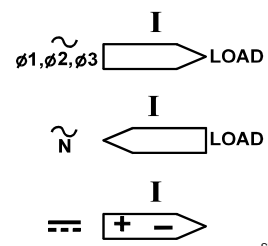

Figure 3. Orientation of the Current Probe
- Clamp the Current Probe around the conductor; be sure that the arrow marked on the jaw of the Current Probe points toward the correct orientation. (see Figure 3.)